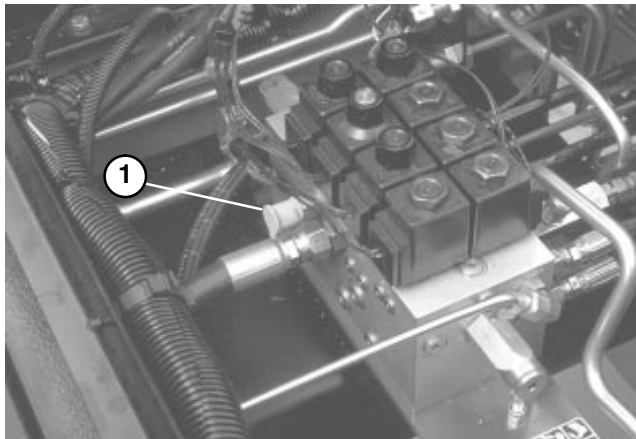

Figure 52
HYDRAULIC SYSTEM TEST PORTS (Fig. 52–54)
1. Test Port “A” (Fig. 52) is used to assist in trouble shooting the hydraulic circuit for the front cutting units and lift cylinders.